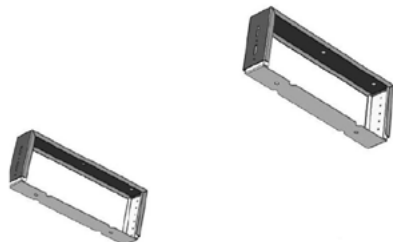

FIG.3
- › Insert the plastic plugs into the holes made, and then fix the ceiling brackets as shown in Fig.3. The ceiling brackets are telescopic, so their height can be adjusted at 80mm between the ceiling and the hood.